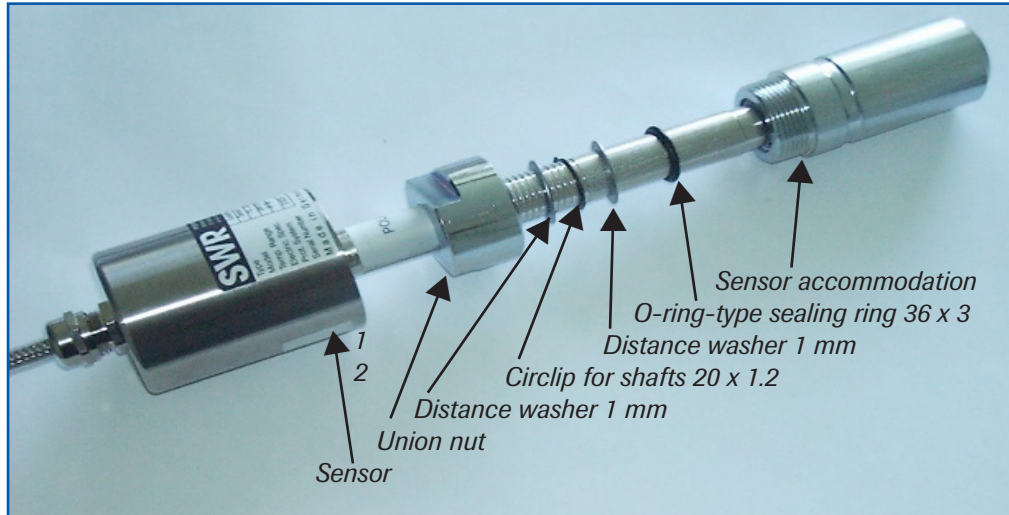

Fig. 6a: Installation of sensor accommodation and sensor.
- Now the sensor is put into the sensor accommodation and screwed with the union nut according to figure 6a.